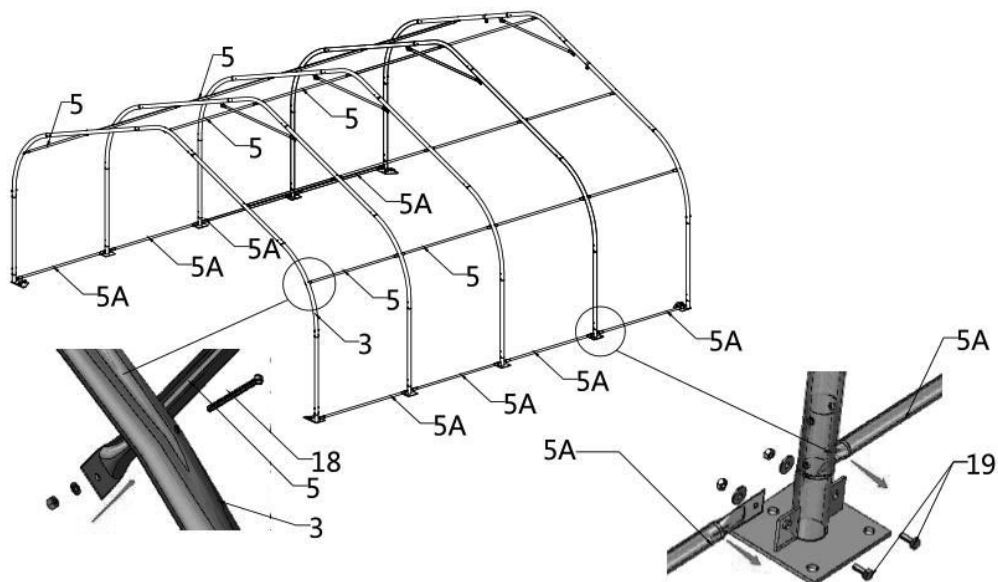

Figure 7
- Refer to Step 3 to put up the rest trusses, connect all purlins (#5) and (#5A) with bolt (#18) and bolt (#19) secure all bolts firmly on each span before going to next truss (refer to figure7).
- (16) Hex bolt (#19)